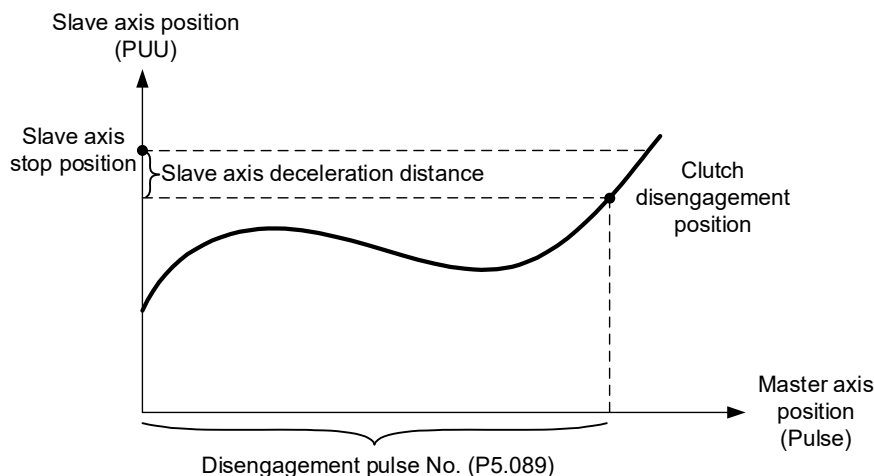

Figure 7-79 Disengagement timing: slave axis decelerates to stop after clutch disengagement
- 4) Decelerate to stop after disengagement (P5.088.U = 6): when the clutch is engaged and the pulse number of the master axis reaches the value set in P5.089, the clutch disengages, the slave axis decelerates to stop, and the E-Cam system is in stop state as shown in Figure 7-79. This function is suitable for applications that require the slave axis to slowly decelerate to stop.